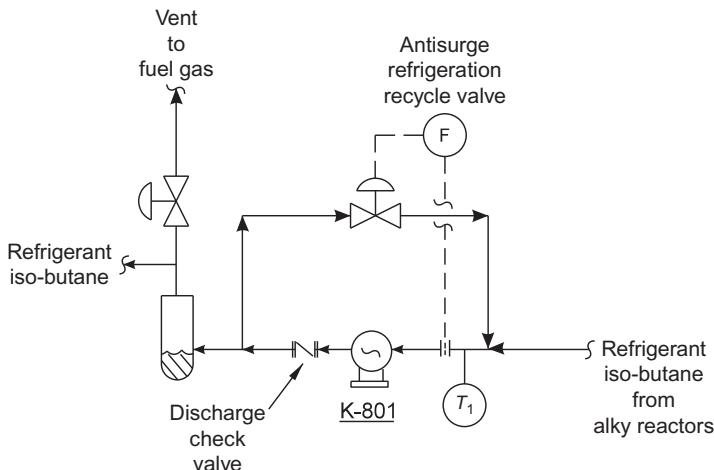

FIG. 32.1 Opening antisurge valve too far overheats compressor suction and causes compressor to surge.
A deep, loud, groaning sound, lasting several seconds, followed by a powerful bang, coming from the direction of our giant 5000 horsepower isobutane recycle refrigeration compressor (see Fig. 32.1), resonated through the control room door.
If the vapor flow rate is reduced, the minimum flow antisurge recycle valve (see Fig. 32.1) will open to maintain the suction flow above the surge point flow. But the recycle
If the differential pressure developed by the compressor (DP) is less than the pressure difference between the discharge and suction (Fig. 32.1), then the gas flow will stop and begin to flow backwards through the rotor's wheels. That's what makes that "surging" sound.
The loud, banging sound, sometimes heard in conjunction with surge, is very distressful but not bad. At my Alky Unit in Texas City, this banging sound was the compressor discharge check valve slamming shut (Fig. 32.1) as a consequence of the reversed gas flow. This dampened the flow of the reversing vapors and also the force of the surge pushing back against the rotor. I suppose then, that such a check valve should be included in the design of all centrifugal compressors.
Old Zip first opened up the vent to fuel gas from the compressor discharge refrigerant receiver, which lowered the compressor discharge (Fig. 32.1). Next, he opened the by-passes on the feed coolers (for both C₄ olefins and isobutane makeup) to increase the refrigerant isobutane vapor flow to the compressor suction.